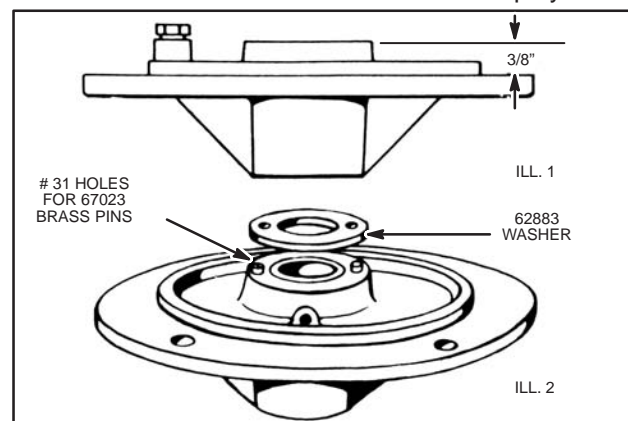

Fig. 113 – REPAIRING WORN THRUST FACE
If the thrust face on the crankcase cover becomes worn it may be repaired by using bronze thrust washer, Part #62883 (NLA), Fig. 113. Proceed as follows:
Place crankcase cover in a lathe and cut down thrust face until distance between thrust face and mounting is  $\frac{3}{8}$ ," Fig. 113, Ill. 1. Drill two (2) No. 31 holes in the thrust face using thrust washer, Part #62883 (NLA) as a jig. Holes should be on a horizontal line with the center of bearing. Be sure washer is centered, Fig. 113, Ill. 2.